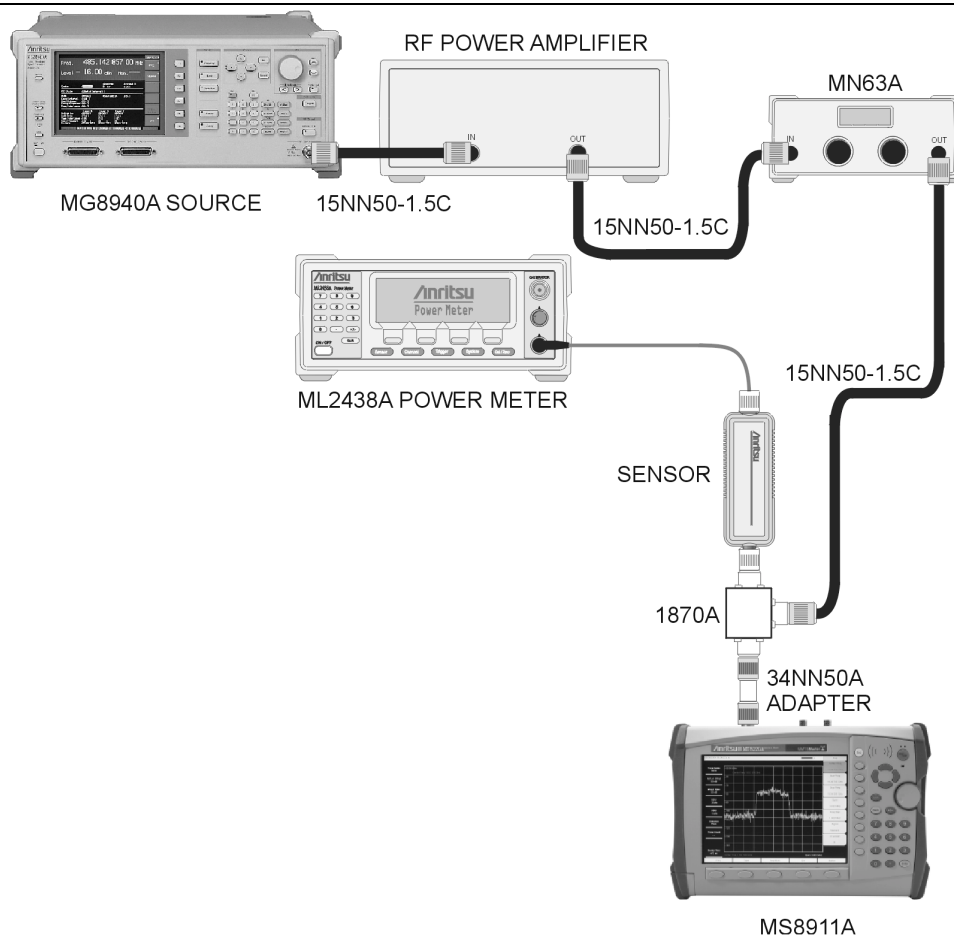

Figure 4. Level Accuracy Verification Setup
1. Connect the MG8940A, MS8911A, RF Amplifier, Programmable Attenuator, Divider, Power Meter and Power Sensors according to Figure 4.